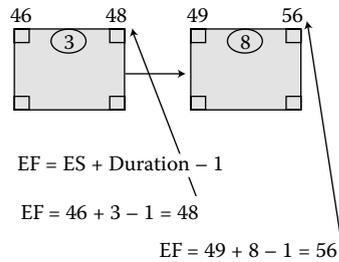

Figure 12.9 Forward pass.
Begin the forward pass with “1.” All activities starting immediately after the starting activity are given a “1” as their early start date. The activity’s *early finish date* is the early start date *plus* the duration (of the activity) *minus* “1.” The early finish date is then incremented by one and it now becomes the early start date for any following activity (Figure 12.9).
In the example in Figure 12.9, 46 plus 3 minus 1 equals the early finish date (48) for the first activity. This early finish date then is incremented by 1, and 49 becomes the early start date for the next activity. In turn, the second activity has an early finish date of 56 (49 + 8 - 1 = 56). Please note that this algorithm is for a finish-to-start relationship only. The “-1” accounts for the intervals. The increment of 1 between activities accounts for the fact that your workday interval is, say, 8:30 a.m. until 5:30 p.m.. PC software will allow for different workdays (interval).